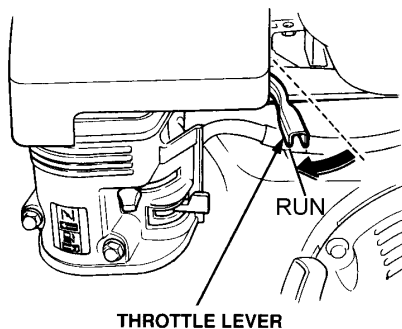

Figure 13. Throttle Lever (Run)
- To begin mixing, place the throttle lever (Figure 13) in the "RUN" position.